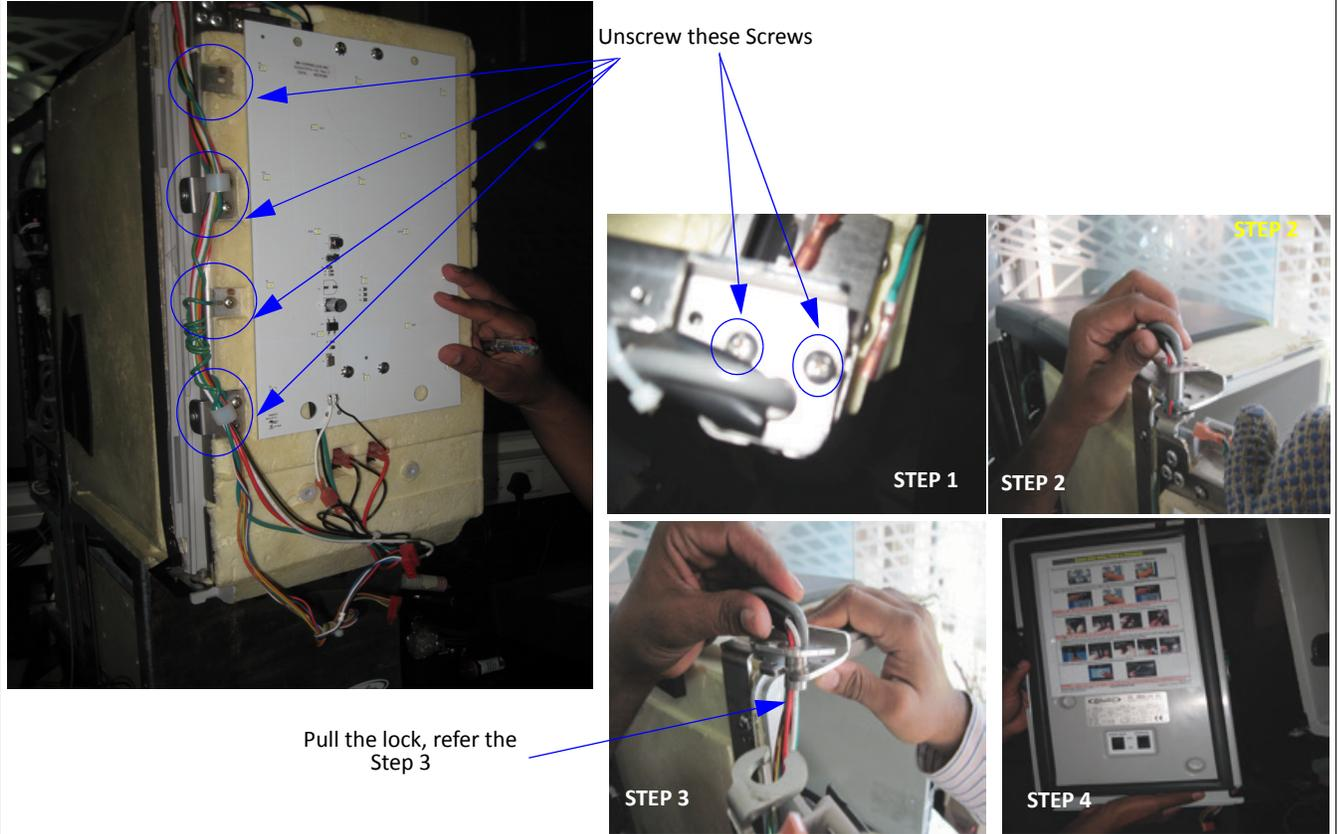

Figure 3.
- Remove the screws and dismantle the Door from the Merchandiser (See Figure 3.)